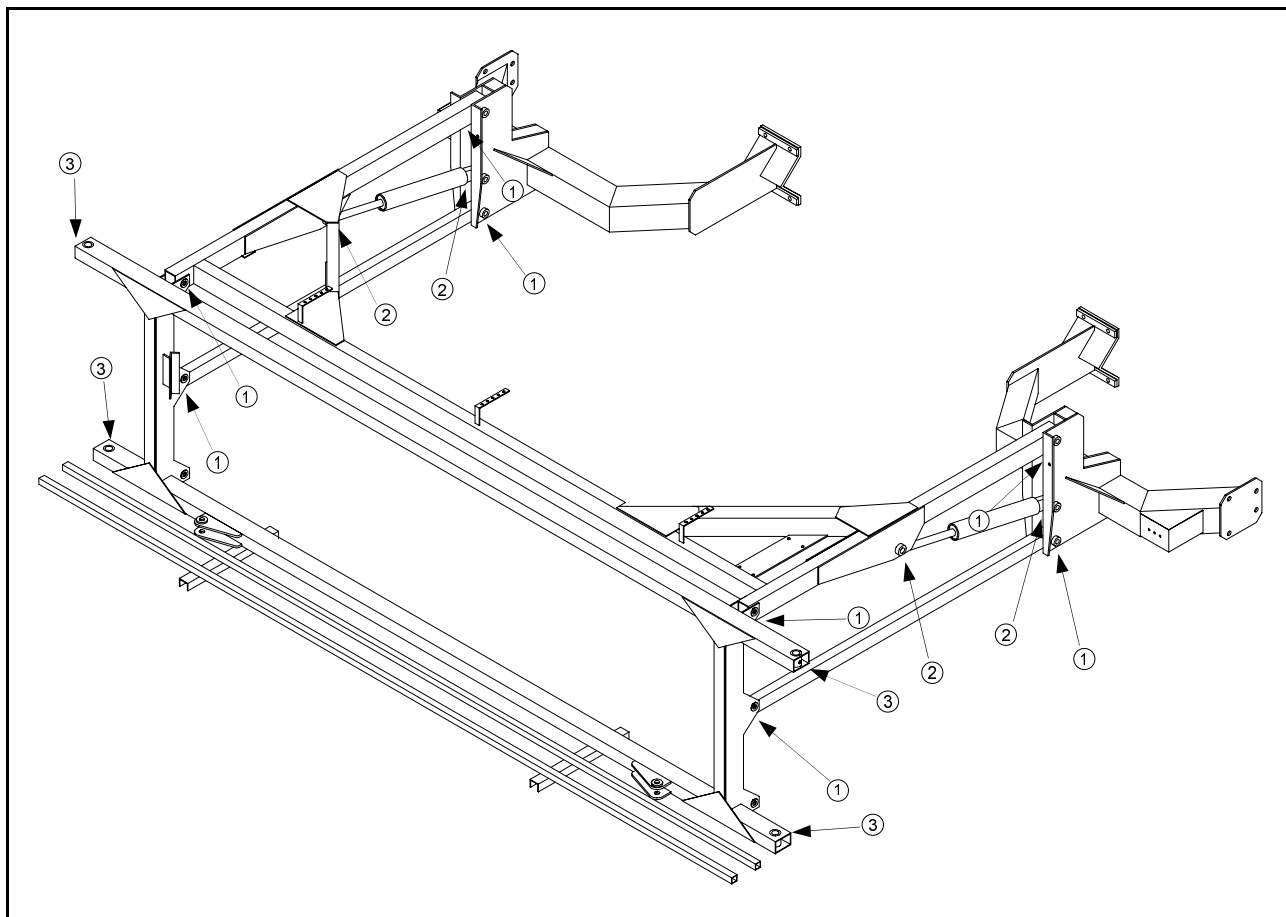

FIG 8.37
Lift arm lift pivots: eight places (fig. 8.37, items 1)
Lift cylinder pivots: four places (fig. 8.37, items 2)
Boom fold pivots on transom: four places (fig. 8.37, items 3)